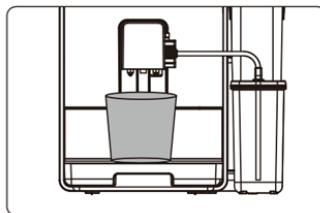

Fig. 5
Switch on the coffee machine. Place the beverage container under the coffee spout (2) and adjust its height to avoid splashing. Check that the milk system and the milk intake tube are correctly positioned (Fig. 5). Check that there is enough water in the water container (5) and beans in the bean container (8).